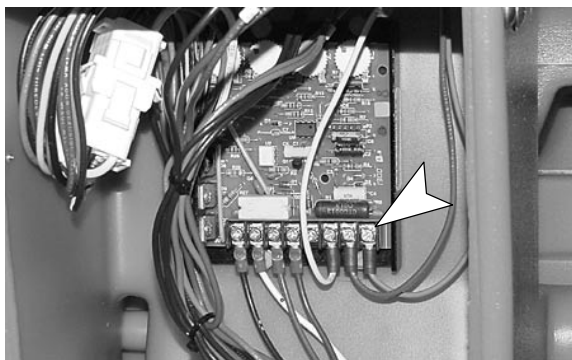

Fig. 2
3. Disconnect the 7 wires that are connected to the bottom of the control board (Figure 2).